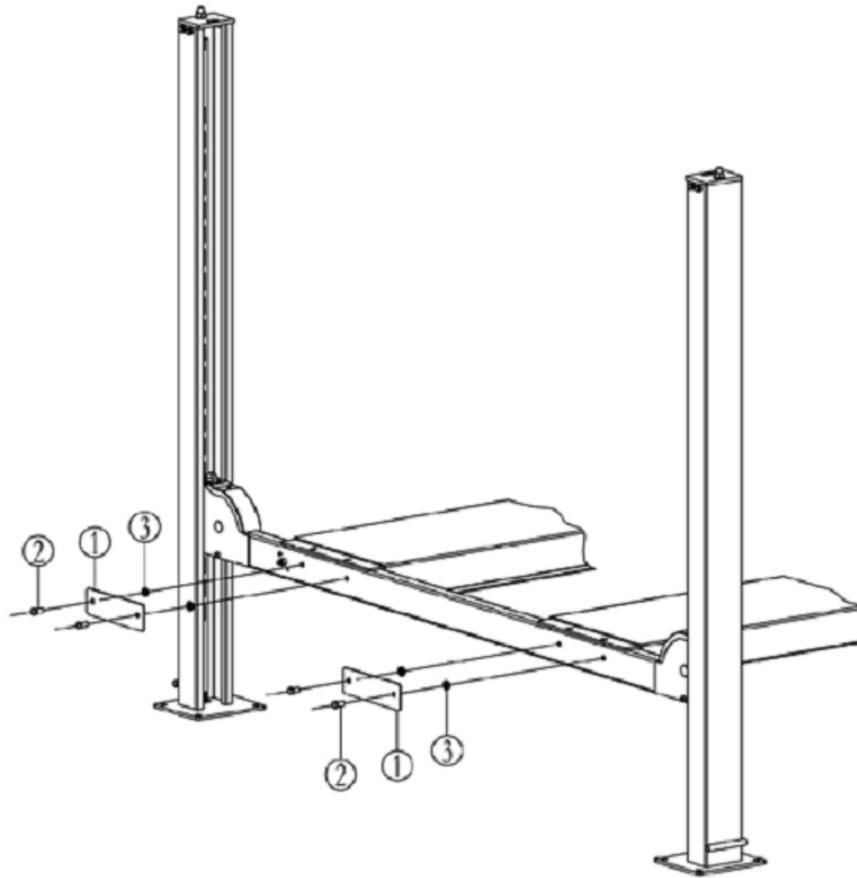

Fig. 14
- Raise the lift to the topmost latch position to verify if four latches are engaging uniformly. If not, make the adjustment referring to the figure 14.